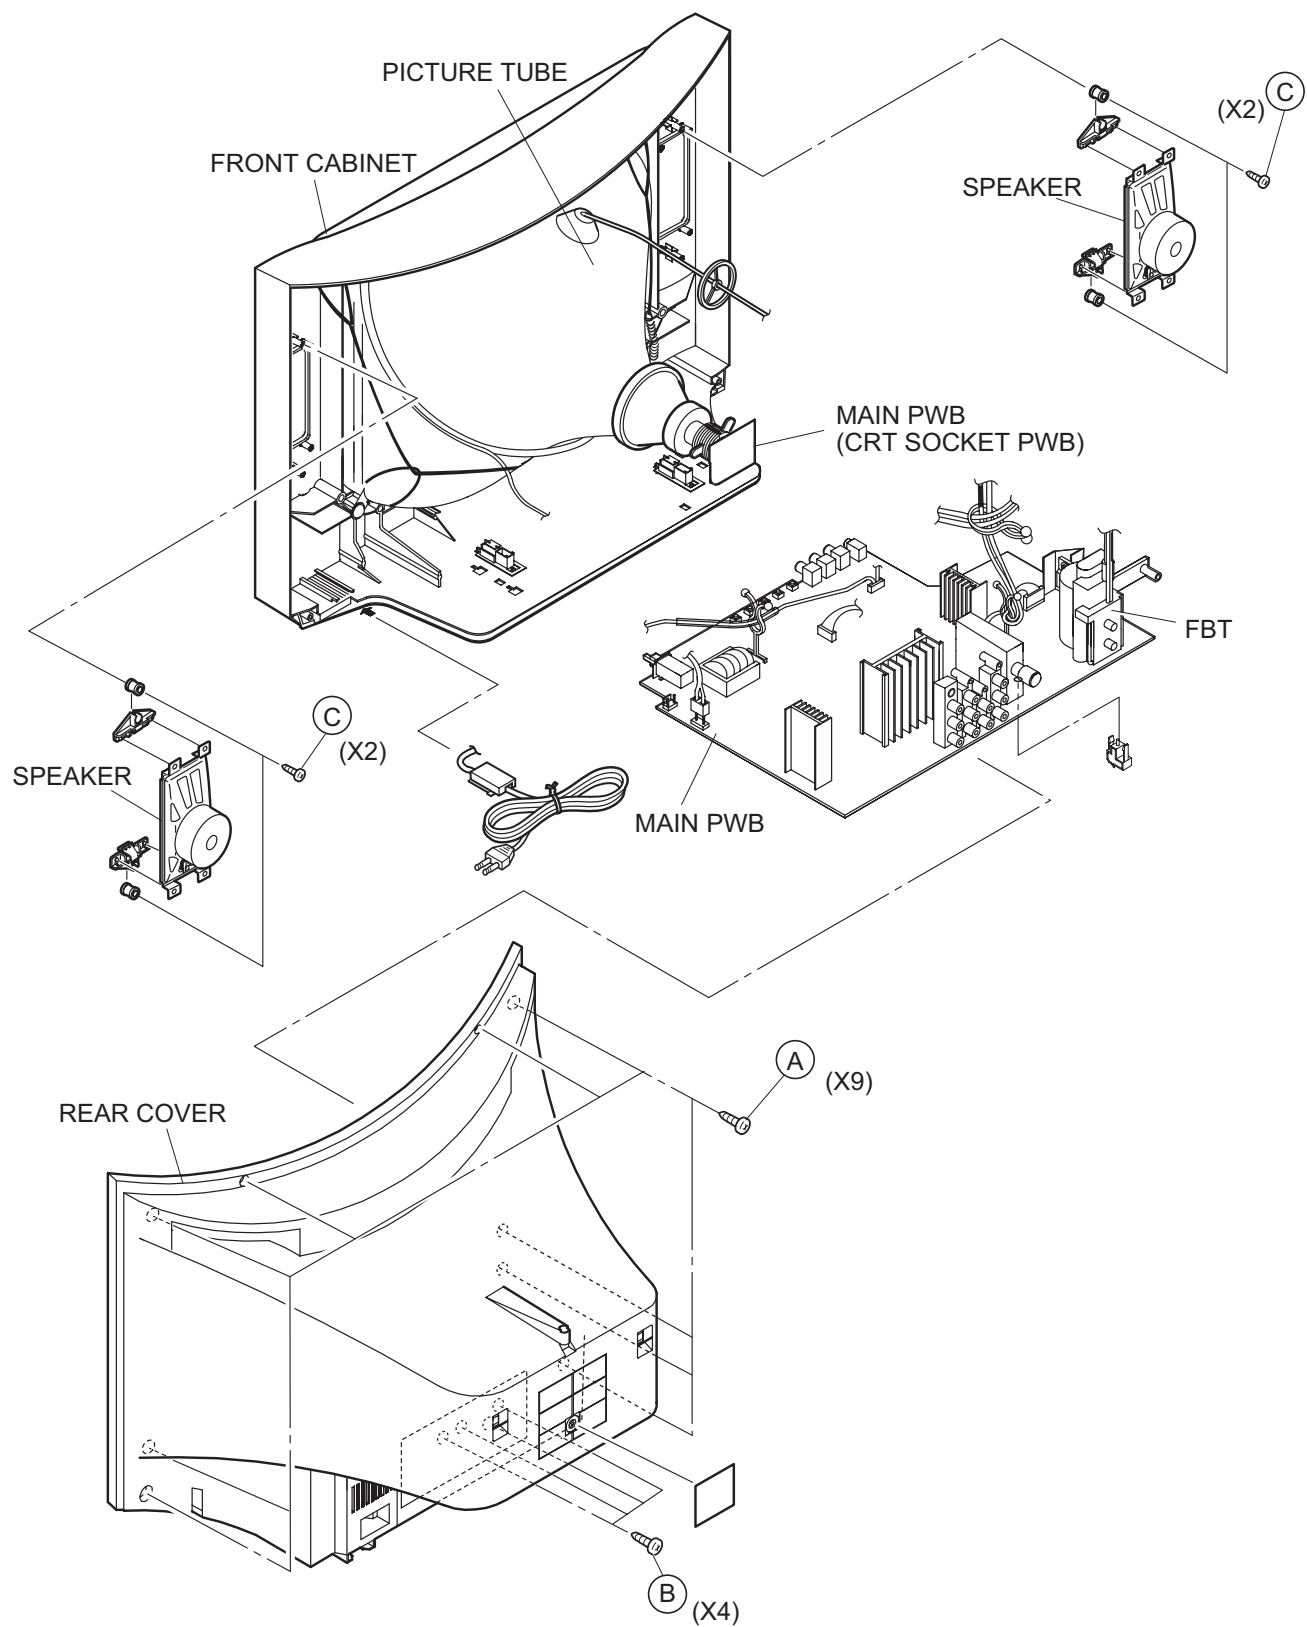

Fig.1
- (1) Remove the 9 screws **[A]** and 4 screws **[B]** as shown in Fig.1.
- (2) Withdraw the REAR COVER toward you.
- (1) Remove the 2 screws **[C]** as shown in Fig.1.
- (2) Follow the same steps when removing the other hand SPEAKER.